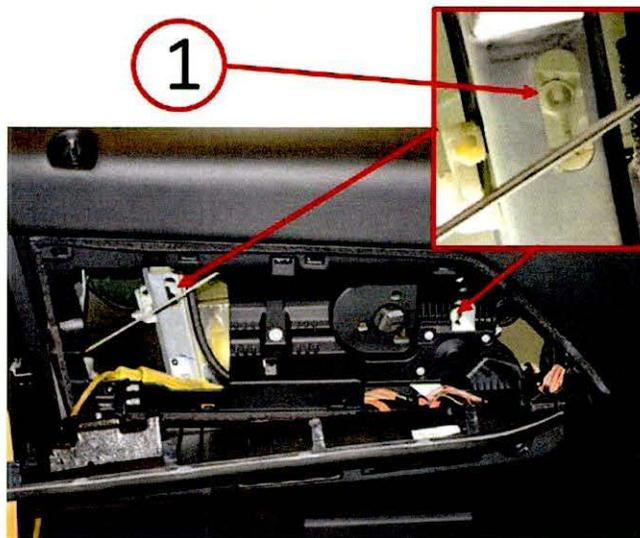

Fig. 10 Attach Window
- 10. Secure the window glass into window regulator lift plate. Front door shown, rear door has only one glass to regulator attachment point (Fig. 10)